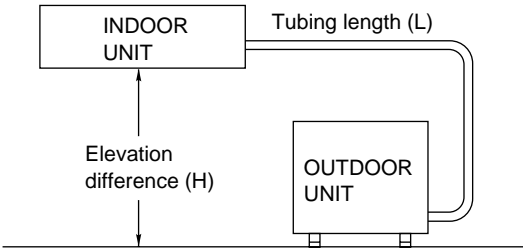

Fig. 2a
- install the unit within the maximum elevation difference (H) above or below the outdoor unit and within a total tubing length (L) from the outdoor unit as detailed Table 1 and Fig. 2a.